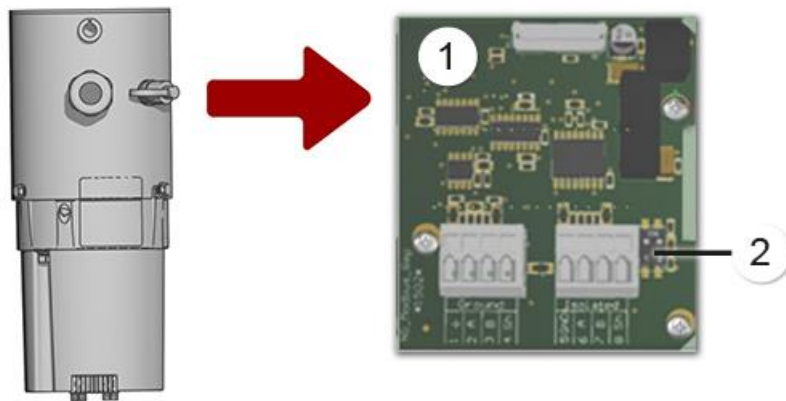

Figure 8: Overview of the Modbus RTU module in the FireGuard 2 Integral
- If the photometer is used as a terminal device, DIL switch S2/1 must be switched ON on the Modbus module (Figure 8, pos. 2).